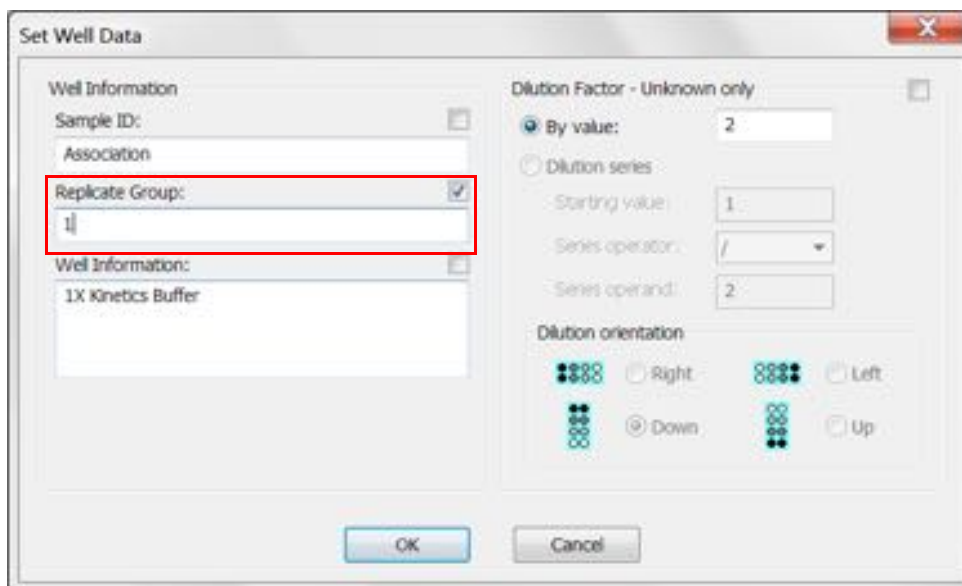

Figure 8-13: Add Replicate Group from the Sample Plate Map
2. In the **Set Well Data** dialog box (see Figure 8-13), enter a name in the **Replicate Group** box and click **OK**.